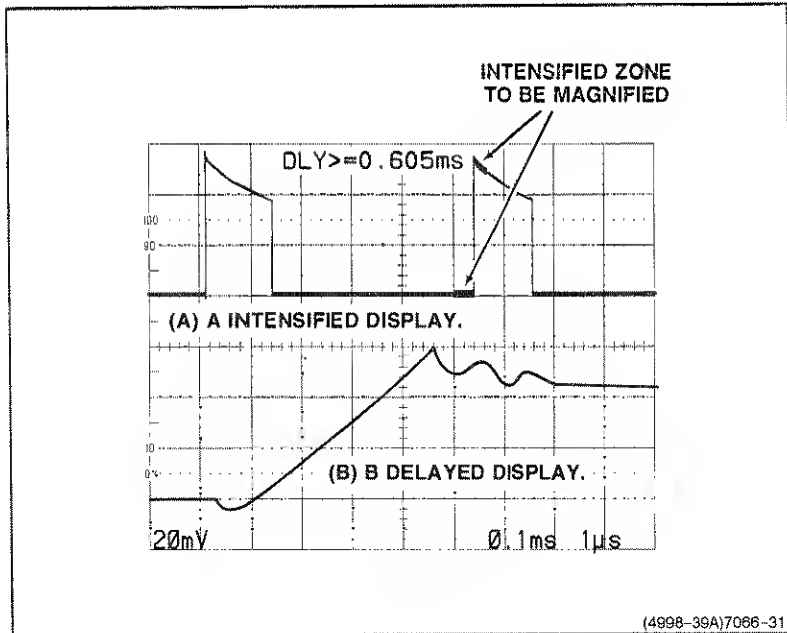

Figure 6-10. Delayed-sweep magnification.
6. Adjust the B DELAY TIME POSITION control to position the start of the intensified zone to the portion of the display to be magnified (see Figure 6-10).
7. Set the B SEC/DIV switch to a setting which intensifies the full portion of the A trace to be magnified. The intensified zone will be displayed as the B trace (see Figure 6-10). The B HORIZONTAL MODE may also be used to magnify the intensified portion of the A Sweep.